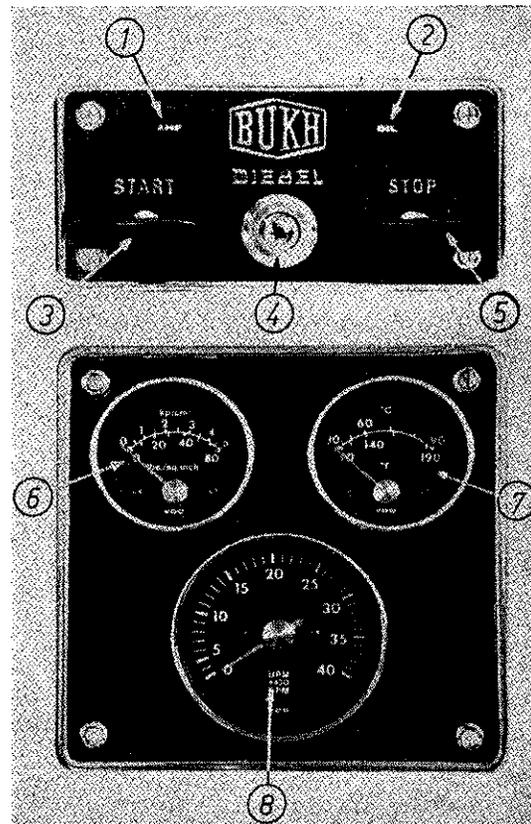
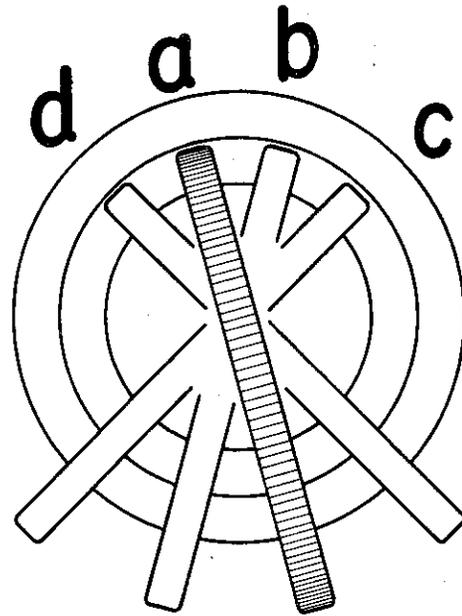

Fig. 9 Operating panel (standard) and instrument panel (additional)
Fig. 10
2. Pull out decompression control on the left of operation panel (fig. 9).
3. Turn key switch to position b (fig. 10).
- Turn key switch into position b (fig. 10).
2. Activate decompression device (fig. 9 and 11).
2. Stop control on the right side of operating panel is pulled out (fig. 9). When engine has stopped, the control handle is pressed in. The key switch is turned to position a (fig. 10).